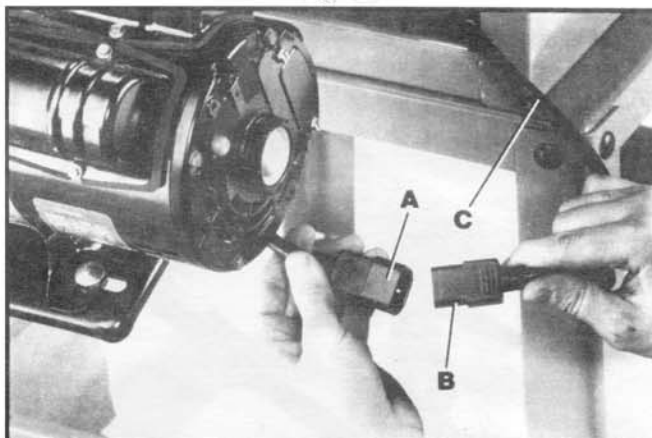

Fig. 18
1. Insert the pronged motor plug (A) Fig. 18, into the female receptacle (B) of switch-to-motor cord (C).